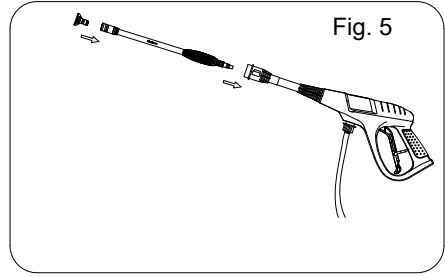

Fig. 5
4. Fit the spray wand to spray gun (Fig. 5)